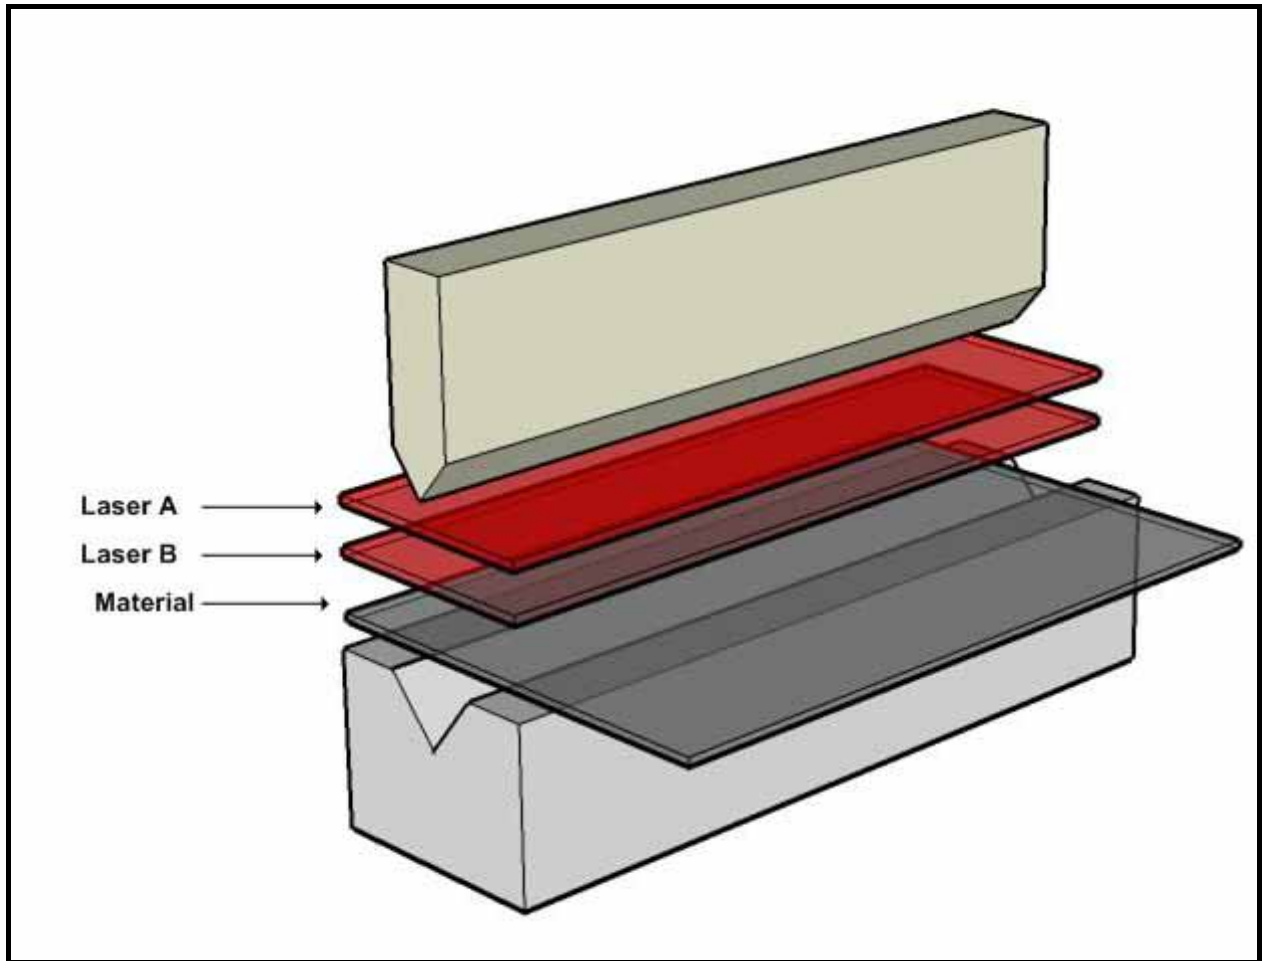

Figure 5-6: Material placement on the die.
- Place a sample piece of material on top of the die. The material should be the same thickness as the material that will be used during bending as the laser will detect the surface of the material when setting the mute point. See Figure 5-6.